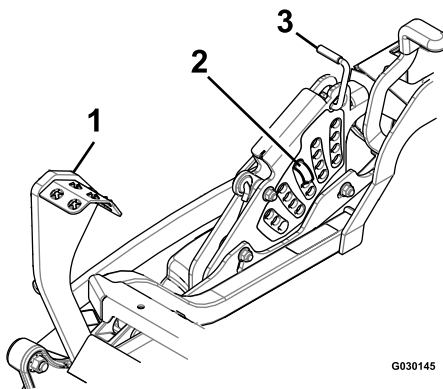

Figure 54
5. Push the foot pedal all the way forward and the deck will latch at the 5 1/2 inch (14 cm) transport position (Figure 54).